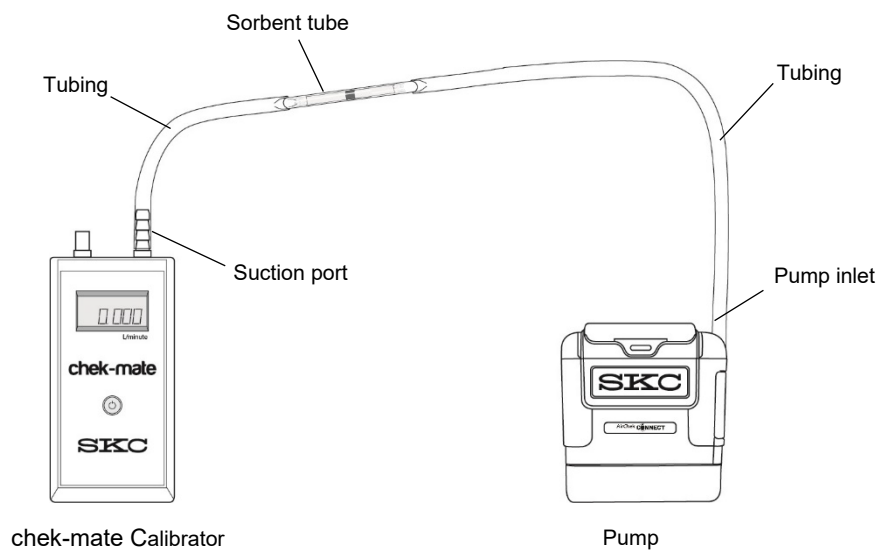

Figure 6. Calibration Train (100 to 1000 ml/min) for Single Tube — Constant Pressure Mode
Before setting/calibrating pump flow in Constant Pressure mode, connect the sorbent tube or other sample medium to the pump inlet. See Figure 6. **Note:** *The pump will fault if there is no sample medium or if the load is too low.*
2. Set up the calibration train (Figures 6 and 7). The All-in-One and CPC are not needed in Constant Pressure mode. Using tubing, connect the calibrator to the single sorbent tube or the first of multiple sorbent tubes.